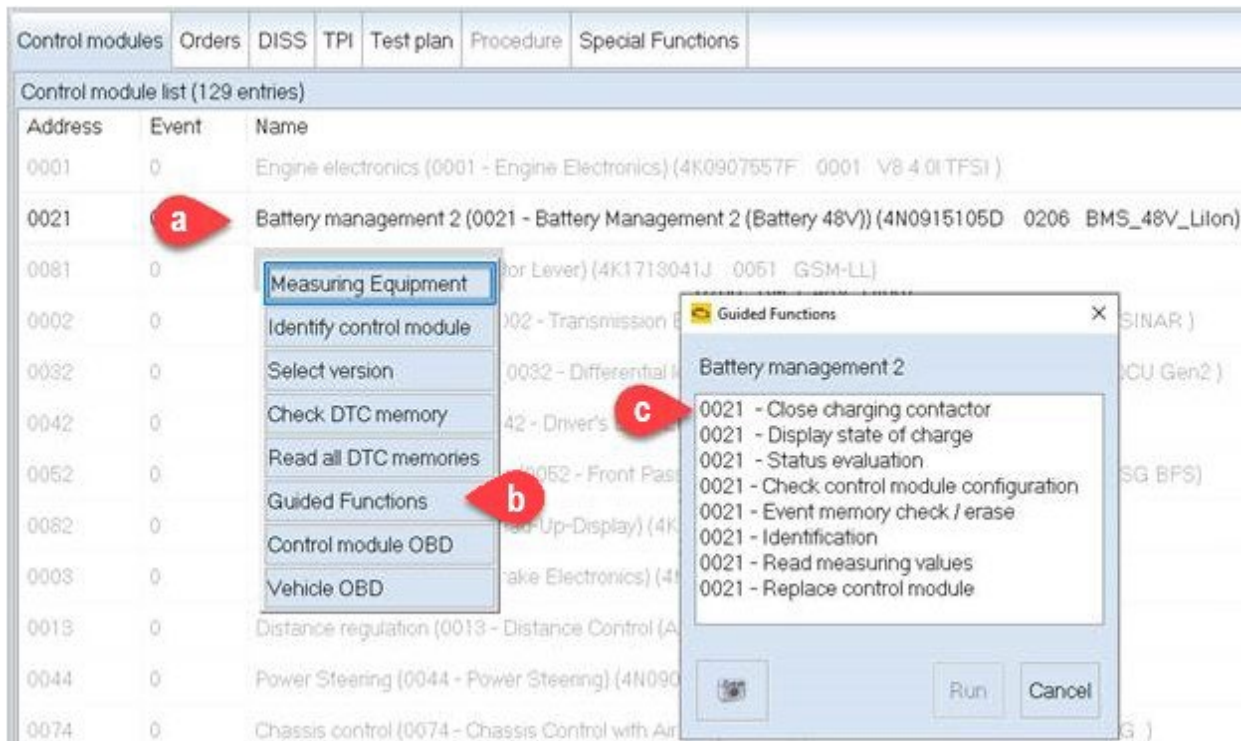

Figure 1: Use the steps below to access the test plan.
3. In ODIS GFF run test plan “0021 – Close charging contactor” (Figure 1) to set the adaptation for protection relay closed, **do not exit the test plan** once the adaptation has been set.